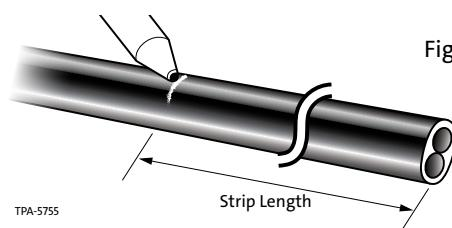

Figure 2
**Step 2:** Measure and mark this length from the end of the cable’s outer sheath using a tape measure and a permanent marking pen (Figure 2).